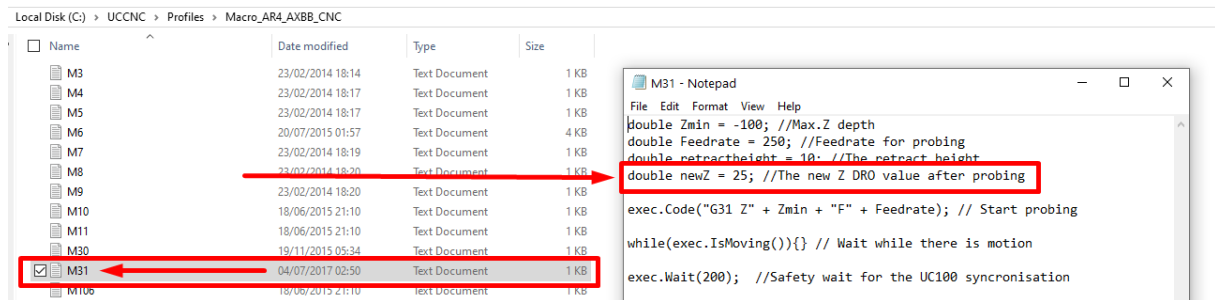

Figure 57: Locate the M31 Macro and change the Z axis value
4. Refer to Figure 57 where the Z axis value set on touch is 25mm.